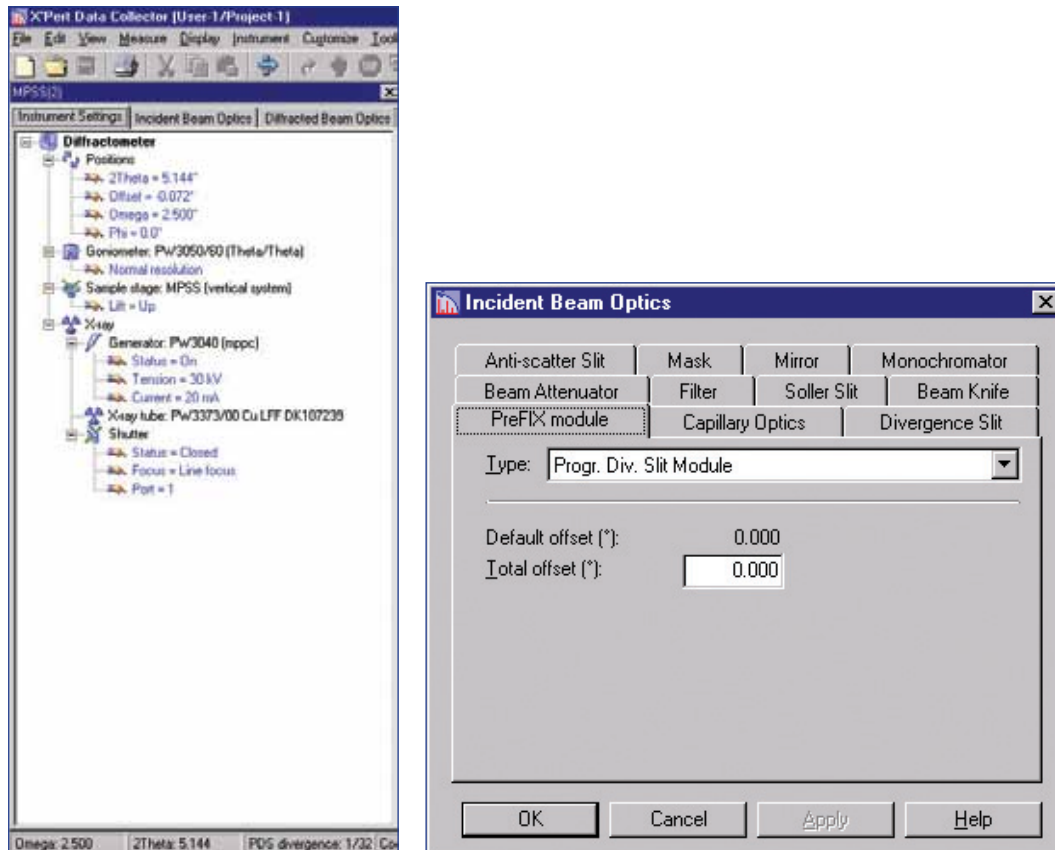

Figure 30. Data Collector control window and Incident Beam Optics setup
7. Select the '**Incident Beam Optics**' tab and double click on '**Prefix Module: Progr. Div. Slit Module**' to open the configuration window (Figure 30, right).